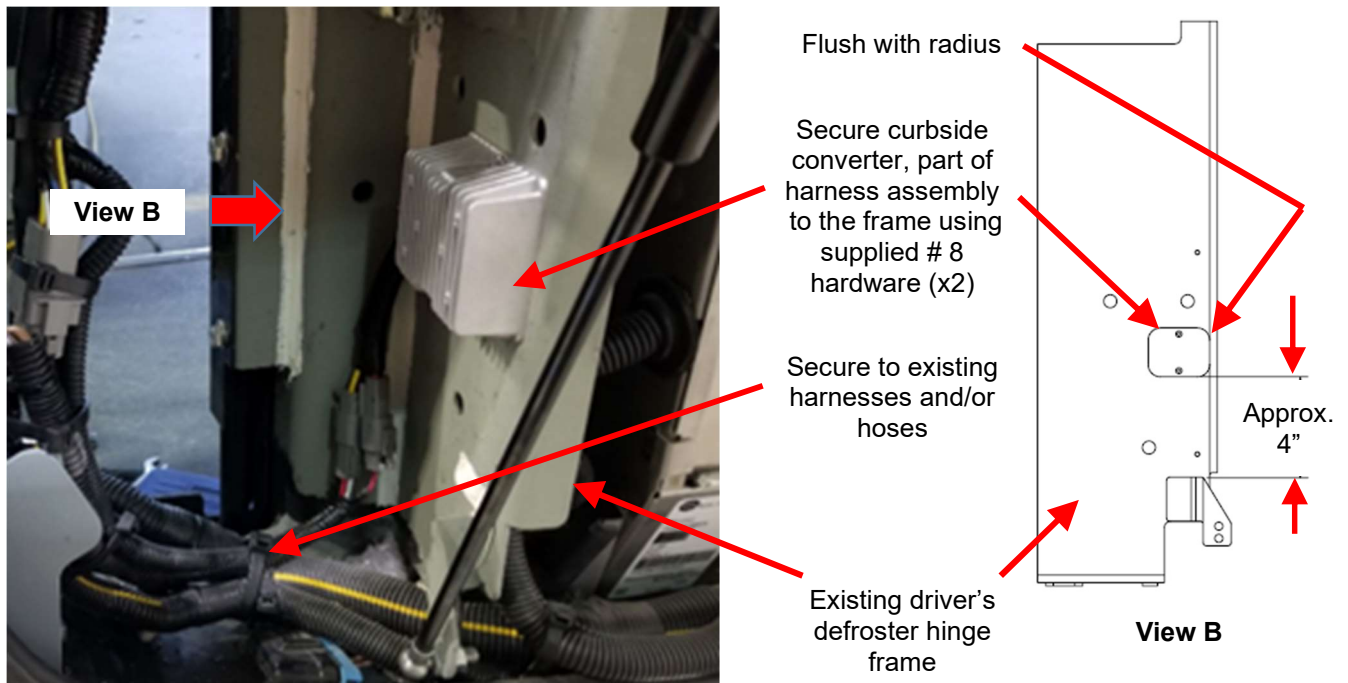

Figure 5: Curbside Headlamp Assembly Harness and Converter Installation
11. Position and orient the converter from the curbside headlamp harness assembly (part of Kit p/n 6487018) at position shown in Figure 5 and using the converter holes as a template drill a 0.177 dia clearance hole (#16 drill bit) thru the outer driver's defroster frame, typ 2 plcs. Secure converter to the frame using supplied # 8 (x2) hardware (x2) (part of Kit p/n 6487018) as shown.